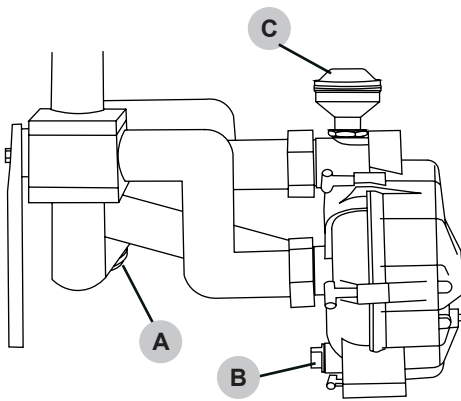

Fig. 25
2. Using a screw or nut driver, loosen the worm screw clamp (Fig. 25 - A). Carefully remove it and the manifold plug from the tee flange.
3. Remove the drain plug on the bottom of the pump (Fig. 25 - B).
4. Remove the primer cover from the pump allowing air into the pump (Fig. 25 - C).